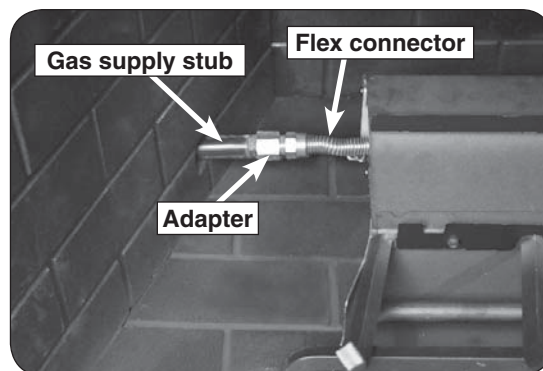

Fig. 14-1 Connect gas supply
2. Locate the gas-supply stub inside the fireplace and remove the cap, if attached (reference Fig. 14-1).
4. **Be sure gas to the fireplace is off.** Remove the adapter that is loosely connected to the flex connector (coming off of the burner system). Attach the adapter to the gas-supply stub using a pipe compound resistant to all gasses. Tighten securely. Then attach the open end of the flex connector to the adapter. Tighten securely (see Fig. 14-1).